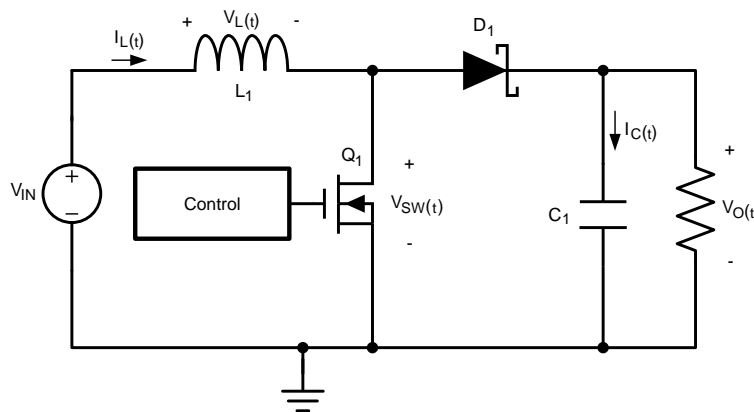

Figure 13. Simplified Schematic
The LM2735 is a constant-frequency PWM boost regulator IC that delivers a minimum of 2.1 A peak switch current. The regulator has a preset switching frequency of either 520 kHz or 1.6 MHz. This high frequency allows the device to operate with small surface mount capacitors and inductors, resulting in a DC-DC converter that requires a minimum amount of board space. The LM2735 is internally compensated, so it is simple to use, and requires few external components. The device uses current-mode control to regulate the output voltage. The following operating description of the LM2735 refers to the simplified internal block diagram (Functional Block Diagram), the simplified schematic (Figure 13), and its associated waveforms (Figure 14). The LM2735 supplies a regulated output voltage by switching the internal NMOS control switch at constant frequency and variable duty cycle. A switching cycle begins at the falling edge of the reset pulse generated by the internal oscillator. When this pulse goes low, the output control logic turns on the internal NMOS control switch. During this on-time, the SW pin voltage (V_{SW}) decreases to approximately GND, and the inductor current (I_L) increases with a linear slope. I_L is measured by the current sense amplifier, which generates an output proportional to the switch current. The sensed signal is summed with the corrective ramp of the regulator and compared to the error amplifier's output, which is proportional to the difference between the feedback voltage and V_{REF} . When the PWM comparator output goes high, the output switch turns off until the next switching cycle begins. During the switch off-time, inductor current discharges through diode D1, which forces the SW pin to swing to the output voltage plus the forward voltage (V_D) of the diode. The regulator loop adjusts the duty cycle (D) to maintain a constant output voltage.